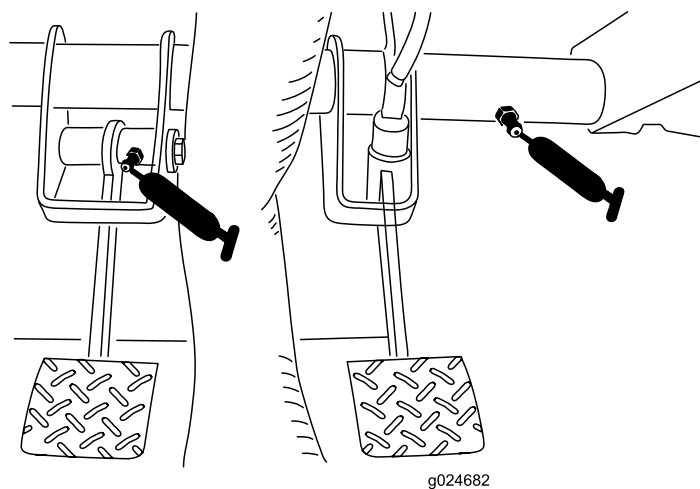

Figura 30
- **Embrague (1)**; consulte Figura 30
- **Freno (1)**; consulte Figura 30